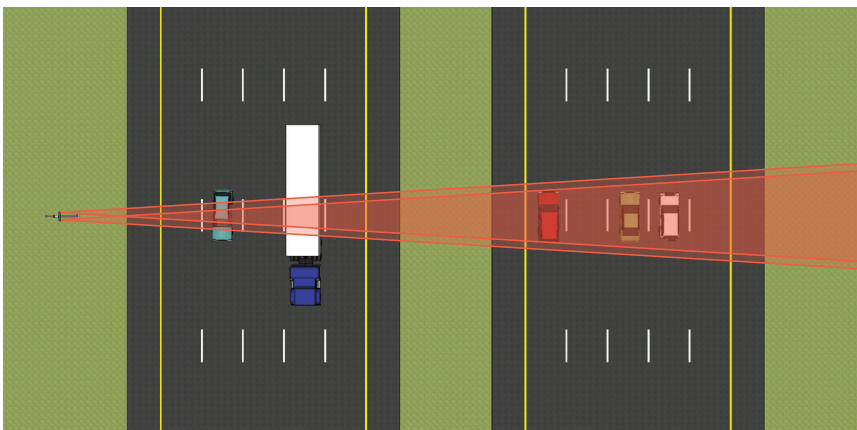

Figure 1.5 - Side-to-side Positioning
- 2 Adjust the side-to-side angle so that it is about two or three degrees right of perpendicular (see Figure 1.5).